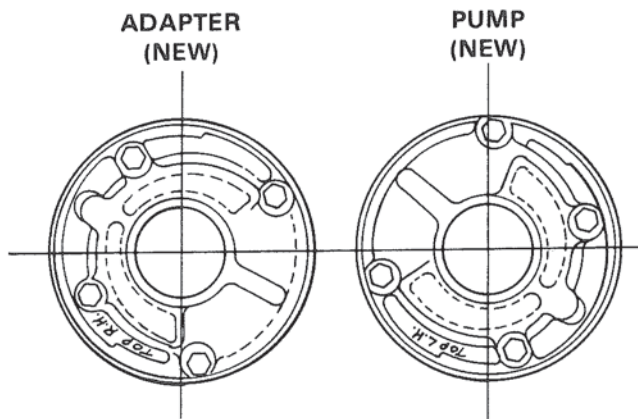

Figure 84. Orientation Markings.
7. Orient the pump mounting bolt holes and arrow indicating direction of rotation to correspond with the direction of rotation required by the engine. Figure 84. If not installed for the proper rotation, the pump will not produce oil pressure to operate the transmission when engine is started.